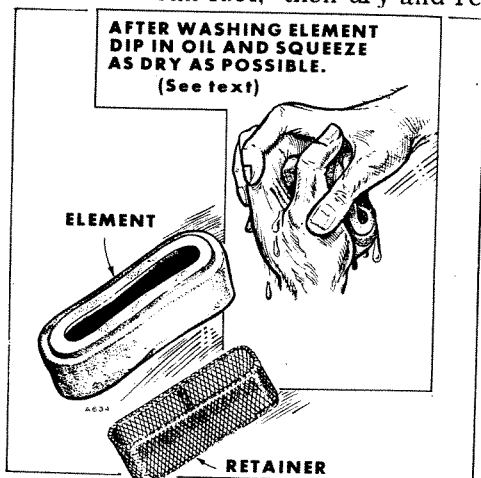

Fig. 16 Air Cleaner Service
E. - AIR CLEANER. See figure 16.